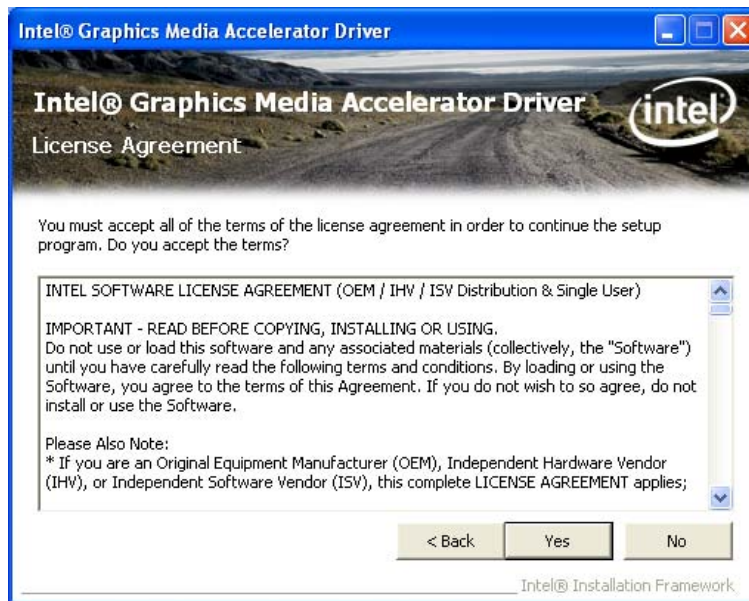

Figure 7-13: VGA Driver License Agreement
Step 8: The license agreement in Figure 7-13 appears.